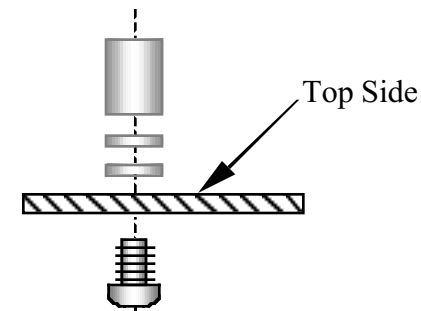

Figure 5-6
- Install a 3/16" (4.8 mm) diameter x 1/4" (6.4 mm) long round standoff on the top of the board (Figure 5-6). The hole for this standoff is just below the large hole. Use *two* #4 split lock washers and a 1/4" (6 mm) pan-head screw (not black anodized) as shown. Insert the lock washers between the standoff and PC board.